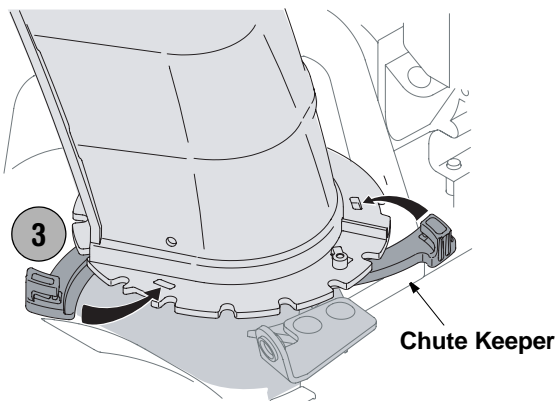

Figure 4
3. One end of each chute keeper is already attached to the chute flange. Pivot the free end of the chute keeper to align it with the chute flange and push it till it snaps into position. See Figure 4. Repeat with remaining chute keepers.